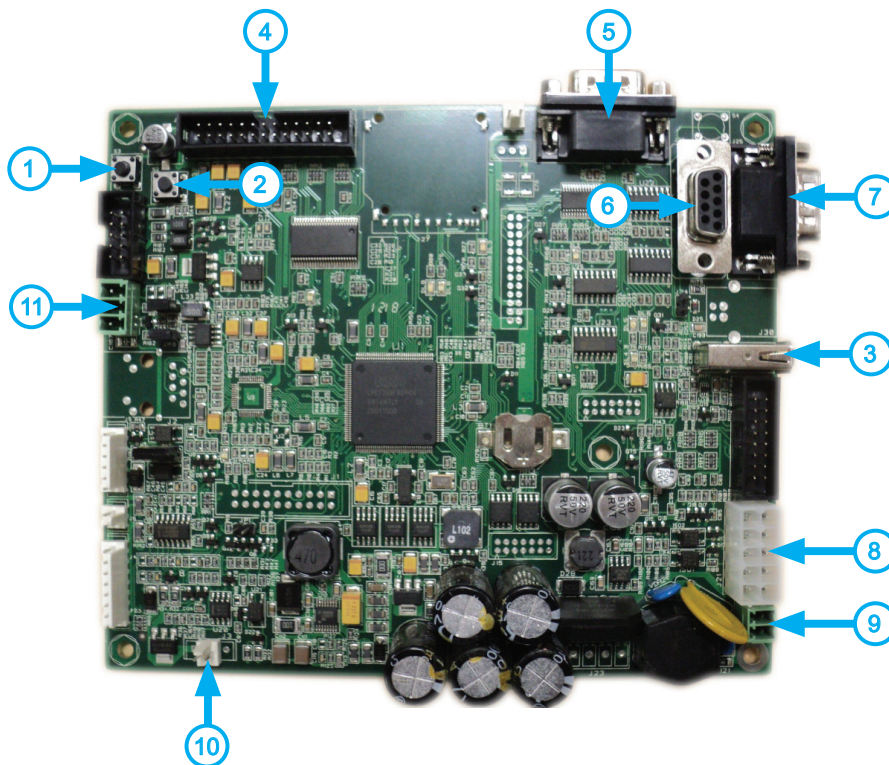

Figure 70 - Main board
You can switch to the service mode by pressing the relevant button on the 4-key pad, which is located on the inner side of the vending machine's door. If the buttons on the keypad are not responding, you can switch modes by pressing holding down for 2-3 seconds, buttons (1) or (2) on the main board (see figure 70).